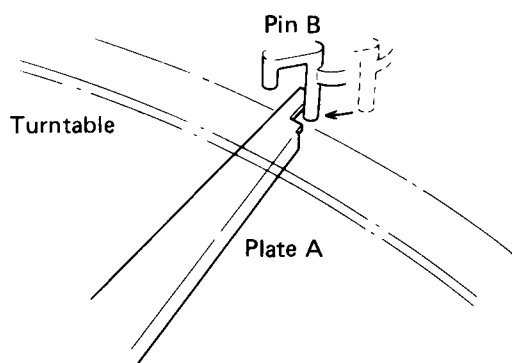

Fig. 4-4 Auto-return detection 1
1. When the stylus nears the center shaft, pin B contacts plate A (Fig. 4-4).